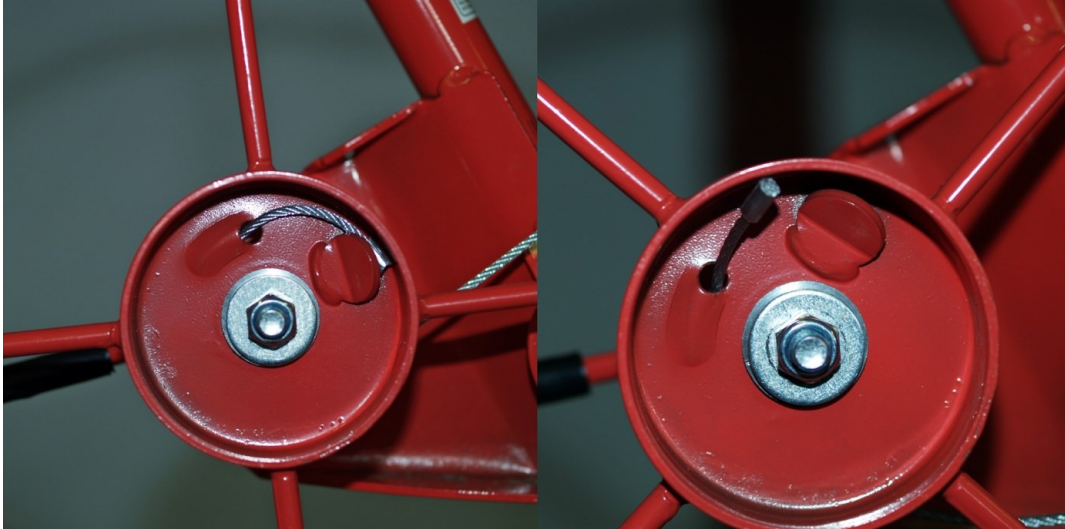

Figure 1
3. Remove the cable from its lock (Fig. 1).